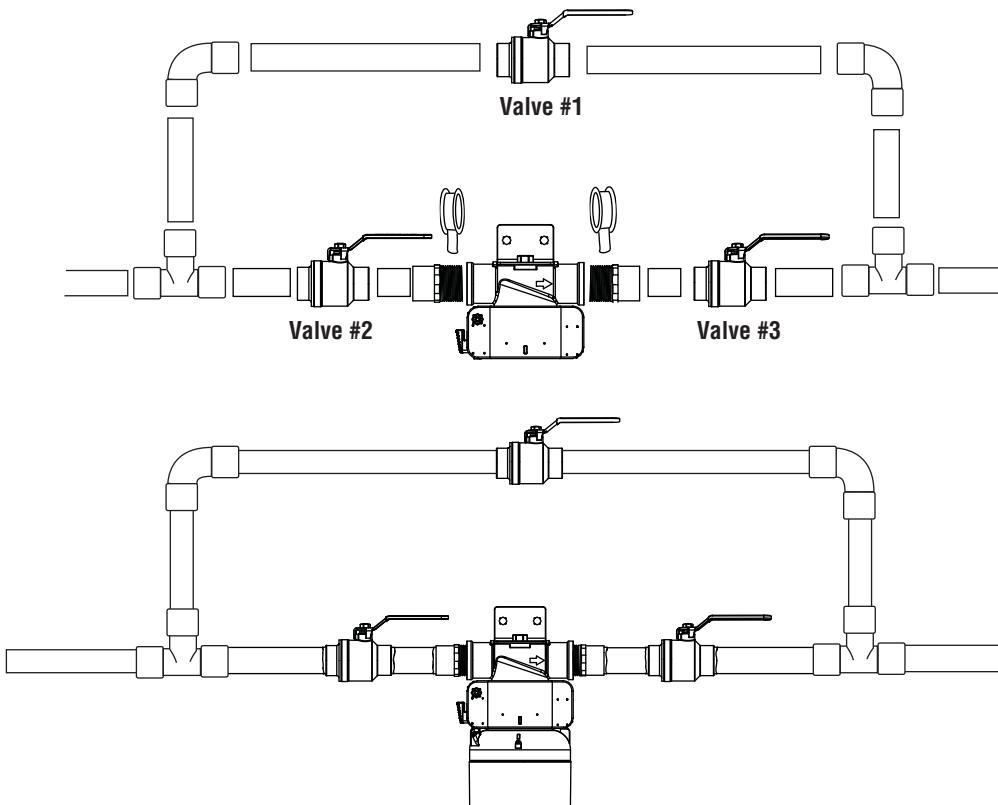

Figure 2
4. Assemble filter head on optional bypass system as shown in Figure 2. Use three ball valves and one filtration unit as shown. Use copper pipe and sweated connections to assemble system.
- Close shut-off valve #2 (fig. 2) upstream of filter system, leaving downstream shut-off valve #3 (fig. 2) open.
- Once filtration system has been depressurized, close the downstream shut-off valve #3 (fig. 2).
- Slowly open upstream shut-off valve #2 (fig. 2) until filtration system fills with water. Slowly open downstream shut-off valve #3 (fig. 2). Flush at least ten (10) gallons through system before use.